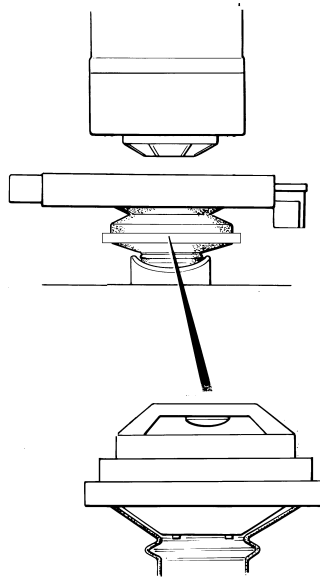

Figure 21 The lower cassegrain
3. Release the locking lever, at the back of the lower cassegrain assembly on the right (Figure 21).